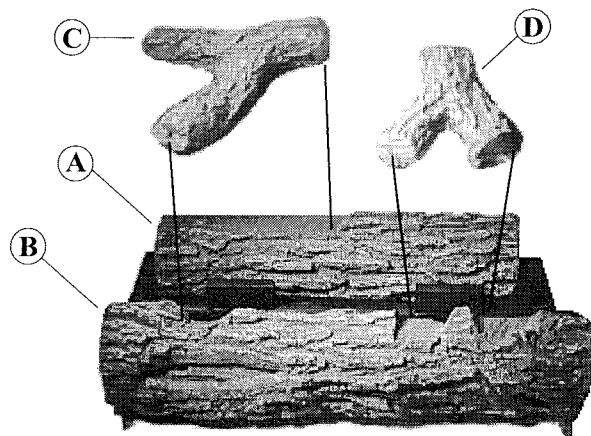
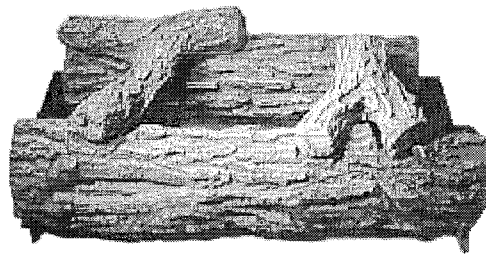

Figure 22a. Log placement.
Figure 22b. Completed log installation.
The **E38-DVM** is supplied with four (4) logs. To install, simply place log "A's" rectangular shaped extension into the log mounting slot located on rear wall of the burner assembly. Place log "B" onto front log slots of the burner assembly. Place log "C" and log "D" onto the mating positions as shown in figure 22a below. When log set is installed it should look like figure 22b.